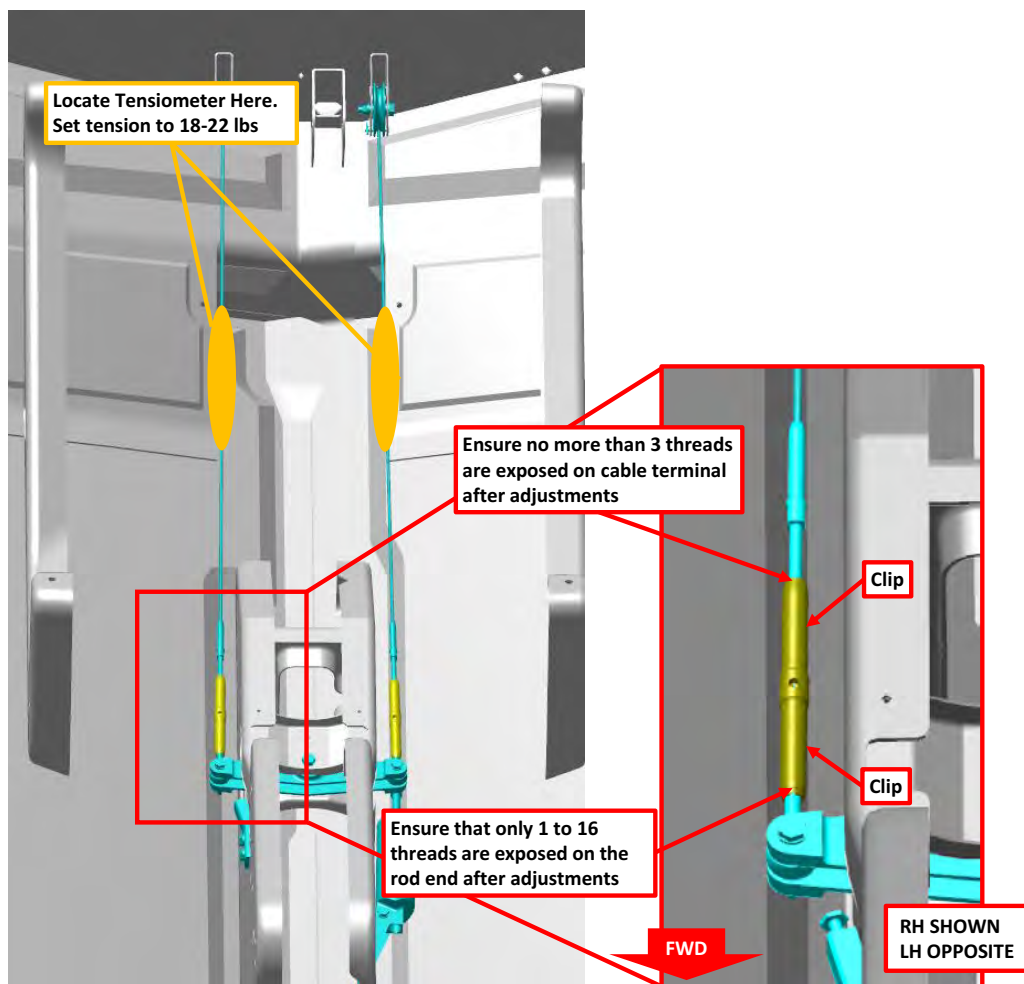

FIGURE 9-58
13. Use a tensiometer to rig both AFT Yaw Control Cables (cable thickness = 1/8 in). Refer to the tensiometer manufacturers' calibration card to correctly read cable tension for the cable diameter measured. To achieve the following, refer to Figure 9-58: